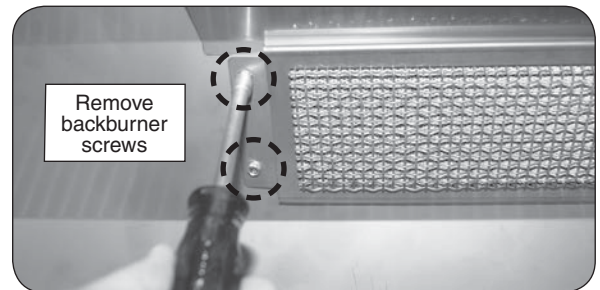

Fig. 33-3 Remove backburner mounting screws
2. Remove the backburner mounting screws (1/4" hex) located at the left end of the backburner assembly (see Fig. 33-3).